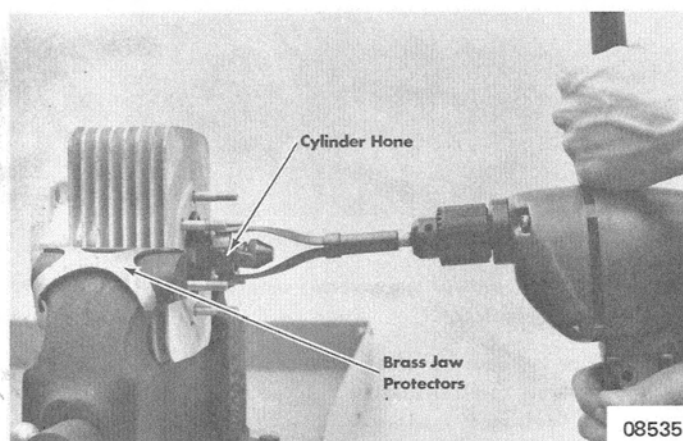

Figure 4. Honing Cylinder
1. Follow recommendations of the hone manufacturer for correct usage of hone and proper cleaning and lubrication during honing. (Figure 4)